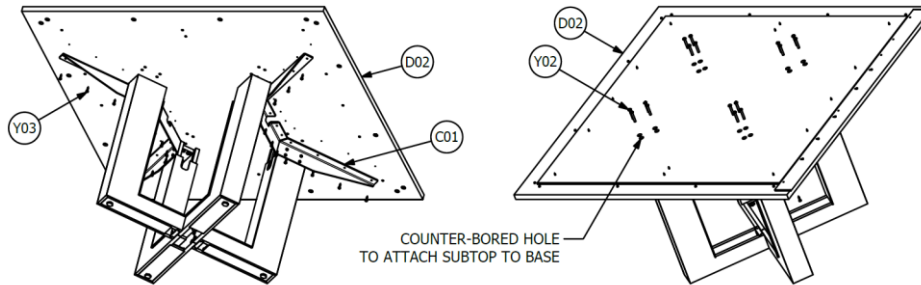

FIGURE 02: 1-PIECE SUBTOP ASSEMBLY
1. Place Subtop (D02) on Table Base with holes to attach Subtop facing down. See Figure 02.
2. Align counter-bored holes in Subtop to threaded inserts in base legs, then use Fastener (Y02) to secure them. See Figure 02.
3. If the table is equipped with Support Arms (C01), use Fastener (Y03) to secure them to the Subtop. See Figure 02.